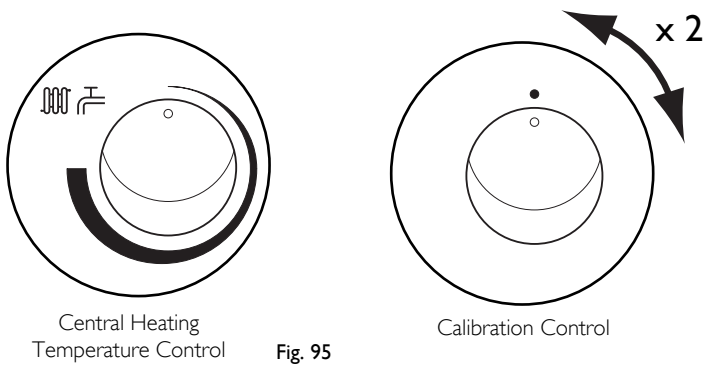

Fig. 95
3. Turn both control knobs fully anticlockwise, then quickly turn the right hand knob 1/4 clockwise twice and back fully anticlockwise (Fig. 95).